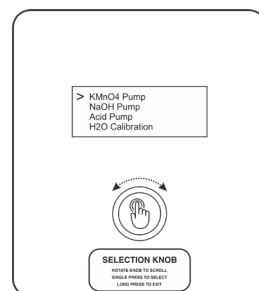

Fig. No. 23.2
- **PUMP CALIBRATION (FOR SERVICE ENGINEER)** (Ref. Fig. No. 23.2)